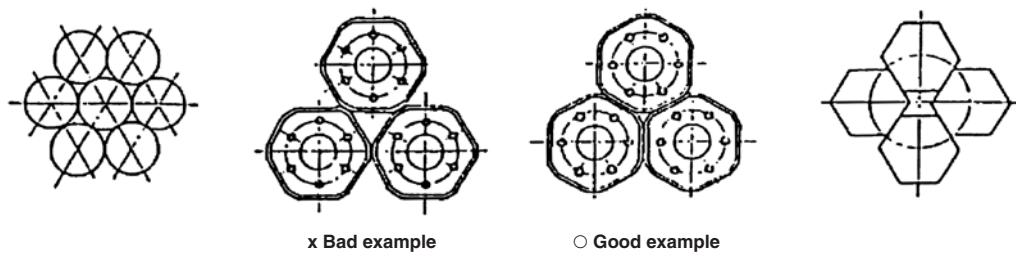
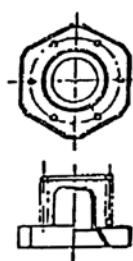

Fig. 3
Fig. 4
- 5-4. The element mounting bracket must be built in it by such a manner as shown in (b) and (c) of (Fig. 3).
Note) Fig. 3 (b) and (c) show the arranging condition of the element mounting bracket (spring, vibration stop, element holder) shown in Fig. 4